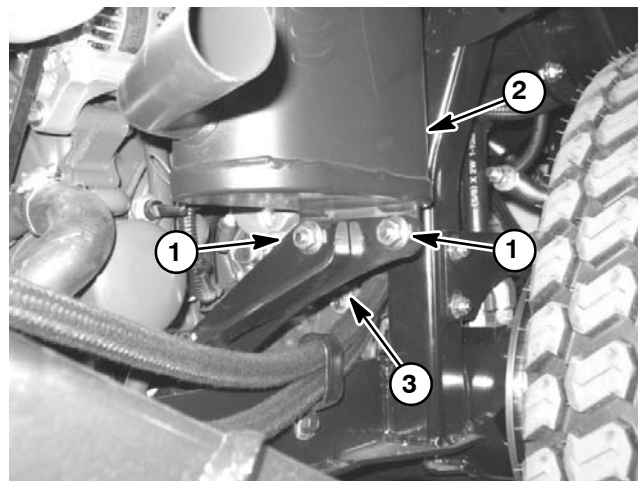

Figure 6
3. Remove two (2) carriage screws and flange lock nuts that secure the muffler to the muffler bracket (Fig. 6).
4. Remove four (4) flange nuts from the exhaust manifold studs. Separate muffler flange from the engine exhaust manifold. Remove muffler from the machine.
2. Position muffler flange to the engine exhaust manifold and loosely install four (4) flange nuts.
4. Tighten four (4) flange nuts to secure muffler flange to exhaust manifold. Torque flange nuts **17 to 21 ft-lb (23 to 28 N-m)**.
5. Check that clearance between muffler and muffler bracket is less than 0.015" (0.4 mm). If necessary, repeat steps 3 and 4 above. Once clearance is less than 0.015" (0.4 mm), secure muffler to the muffler bracket by tightening two (2) carriage screws and flange lock nuts (Fig. 6). Torque lock nuts from **38 to 48 in-lb (4.3 to 5.4 N-m)**.